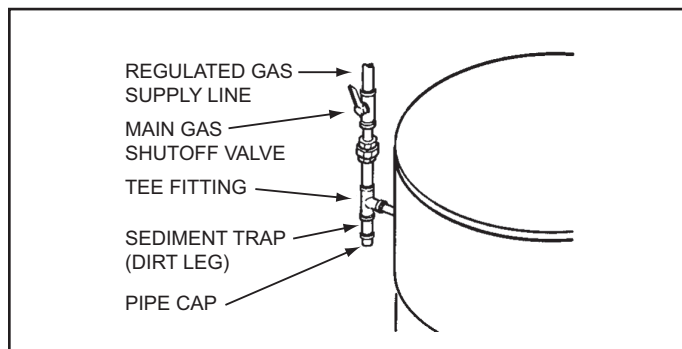

Figure 52
Ensure all gas pipe is clean on the inside before installation. To trap any dirt or foreign material in the gas supply line a sediment trap (dirt leg) must be installed as shown in Figure 52. The sediment trap must be readily accessible and not subject to freezing conditions. Install in accordance with the recommendations of the local gas utility company.
7. Install a sediment trap (dirt leg) as shown in Figure 52 on page 39.
8. Install a Main Gas Shutoff valve in the supply gas line as shown in Figure 52 on page 39.
1. For test pressures exceeding 1/2 psi (3.45 kPa) disconnect the water heater and its Main Gas Shutoff Valve from the gas supply piping system during testing, see Figure 52 on page 39. The gas supply line must be capped when disconnected from the water heater.